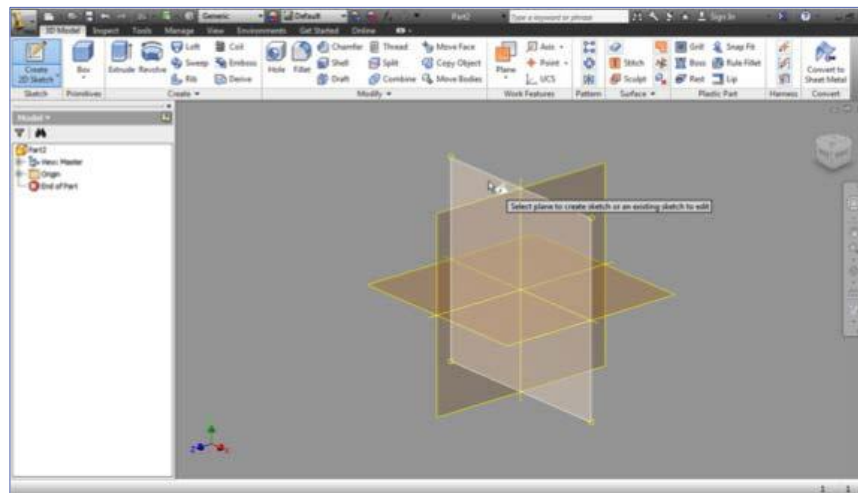

Figure 5
2. Create a 2D sketch and highlight ANY plane. The program will now enter into the sketch environment (Figure 5).